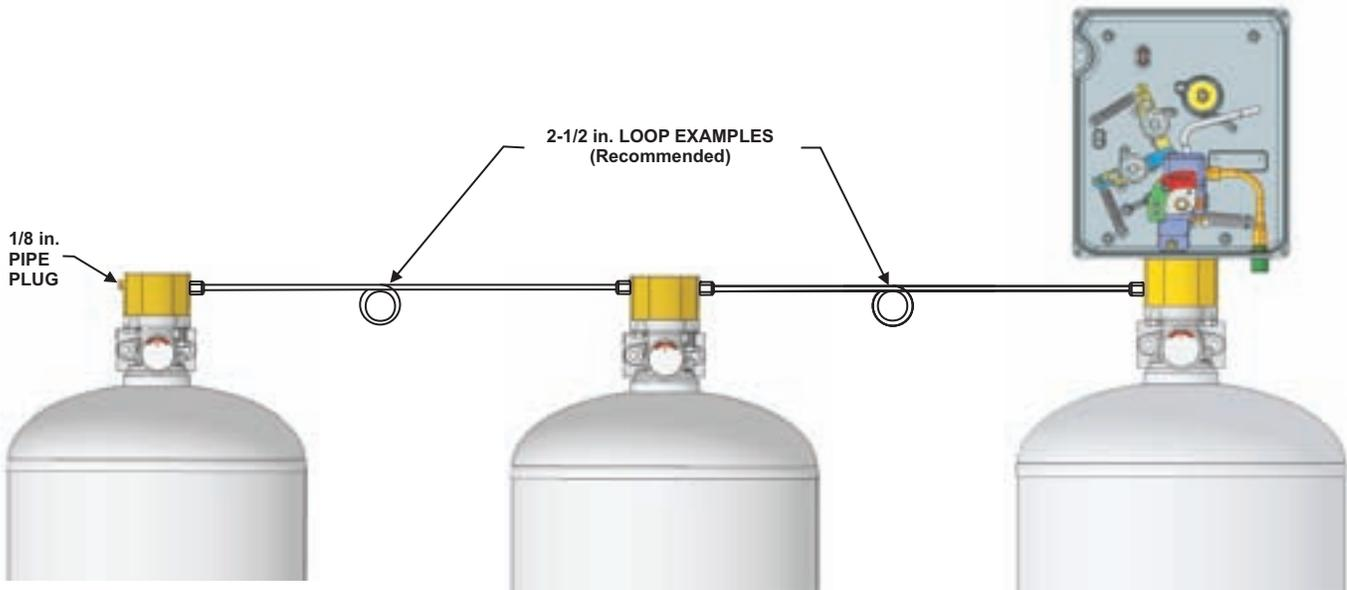

Figure 4-16. Example of Copper Tubing Loop Method
7. For multiple cylinder installations, install 1/8 NPT (M) x 1/4 copper tubing adapters. Compression type adapters are permissible.
8. For multiple cylinder installations, measure and install the 1/4 O.D. x 0.031 wall thickness copper tubing. A 2-1/2-inch (64 mm) loop between each cylinder and on the inlet tubing is recommended, but not required. See Figure 4-16. Ensure that each connection is secure.
9. Install the 1/8 NPT (M) x 3/8-24 JIC flare adapter (included with the High Pressure Nitrogen Tubing, P/N B120045) onto the outlet port of the UCH Control System.